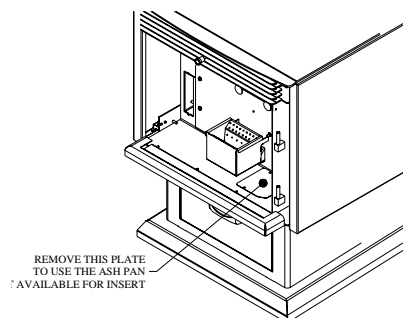

Figure 41
- Periodically remove and empty the ash drawer (see Figure 41 & 42). Dispose of ashes properly.